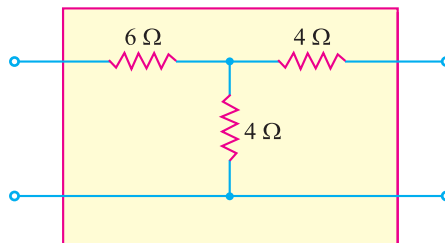

Fig. 24.16
1. Determine the h -parameter values for the circuit shown in Fig. 24.16.